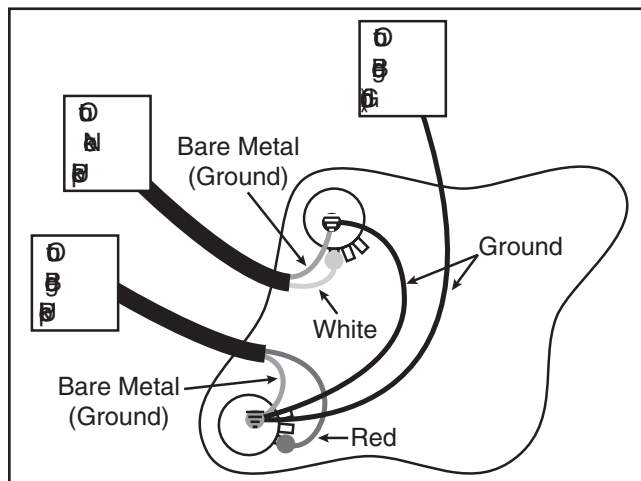

Figure 12. Wiring diagram 2. (The wires from Wiring Diagram 1 are removed for clarity.)
5. Solder the pickups onto the pots as shown in **Figure 12**. Note—The ground wires are soldered directly to the surface of the pots.
6. Cut the ground wires to length and solder them to the surface of the pots as shown in **Figure 12**.